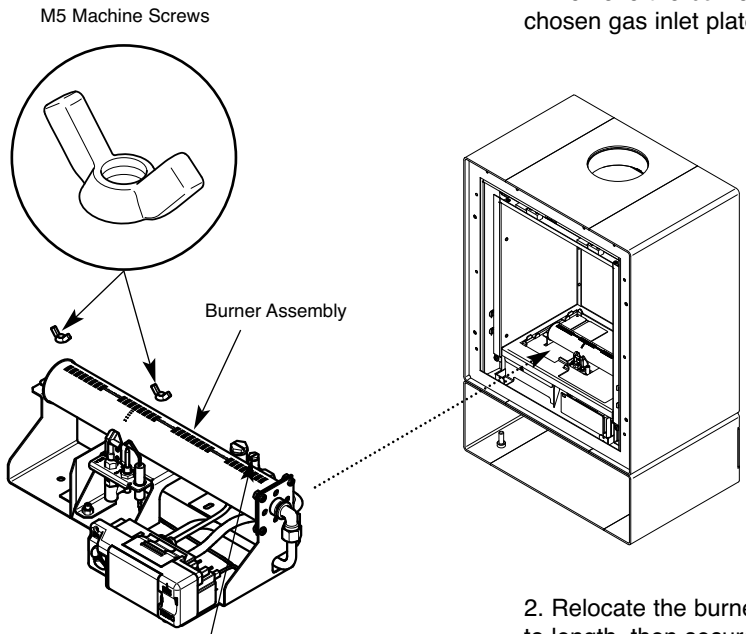

Fig. 8
1. Remove the burner assembly (2 x wing nuts) and chosen gas inlet plate (Fig. 8).
2. Relocate the burner assembly and mark/cut gas pipe to length, then secure burner assembly with the 2 x M5 machine screws and refit the gas inlet cover plate (Fig. 8).